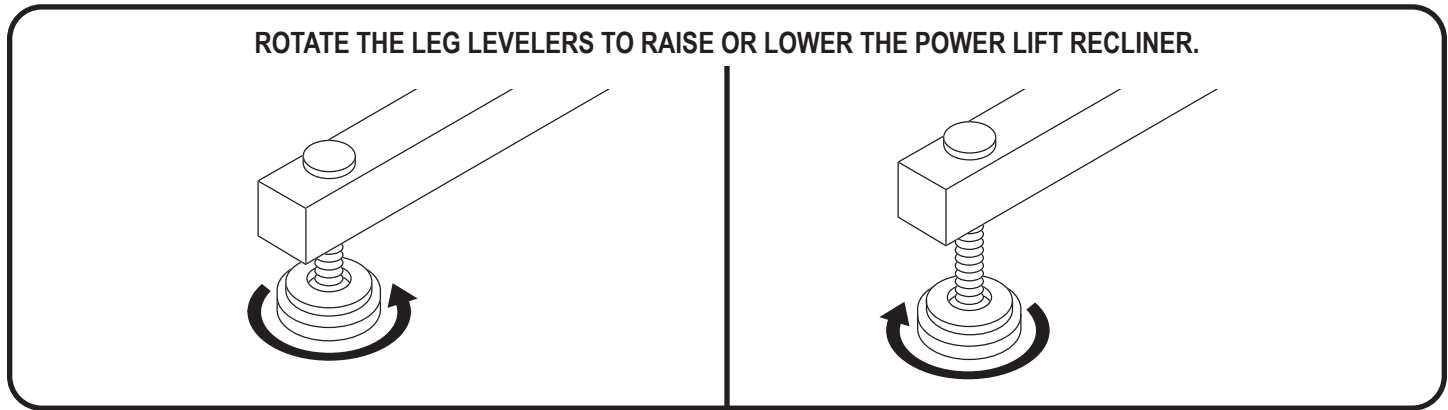

Figure 3.2 Leg Levelers
Leg Levelers: Manually rotate up or down in order to stabilise the recliner before use (**Fig. 3.2**).
2. Adjust the leg levelers to stabilise the power lift recliner (**Fig. 3.2**).